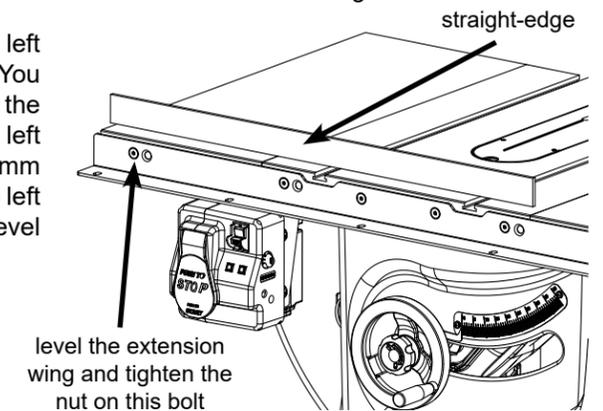

Fig. 5
5. Use a straight-edge to level the front edge of the left extension wing to the cast iron table top (see Fig. 5). You may have to pull up or push down on the outer edge of the extension wing to level it. Once the front edge of the left extension wing is level, use a 5 mm hex key and a 13 mm wrench to fully tighten the nut on the bolt that mounts the left extension wing to the front rail. **Repeat** this process to level the front edge of the right extension wing.